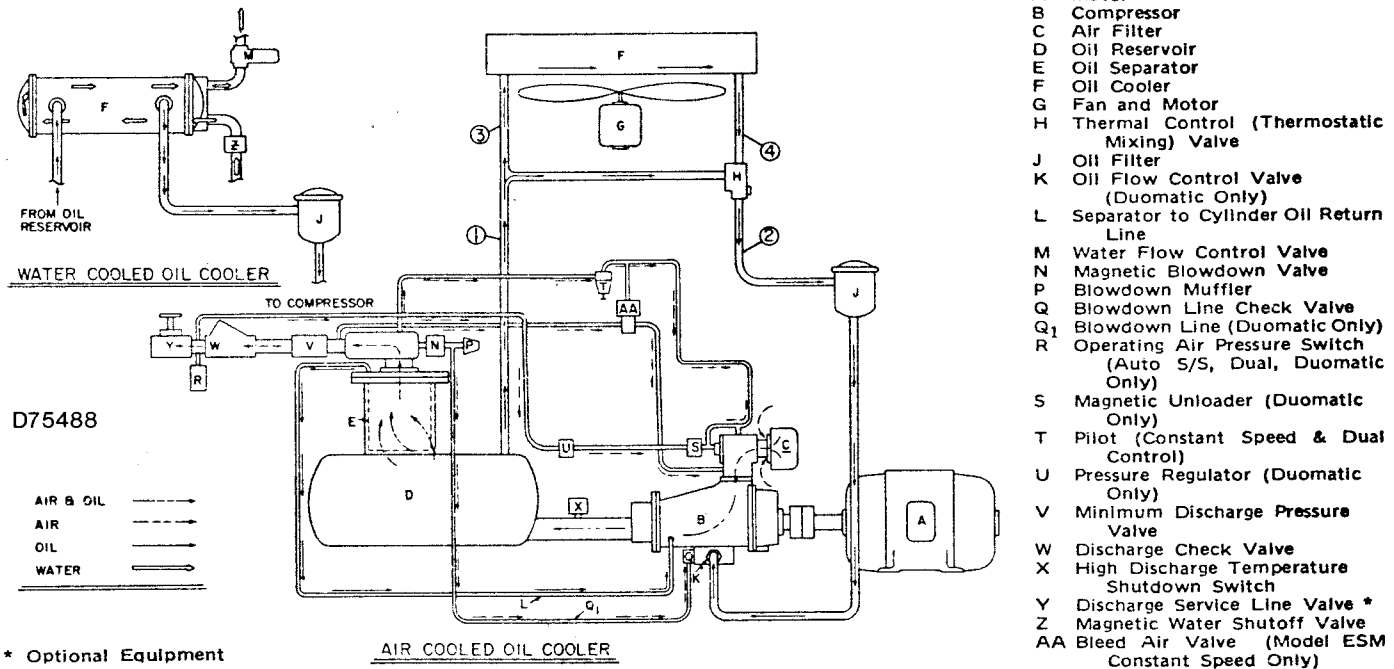
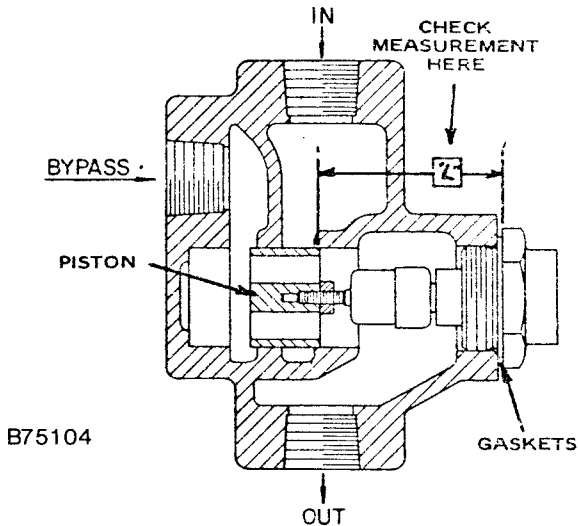
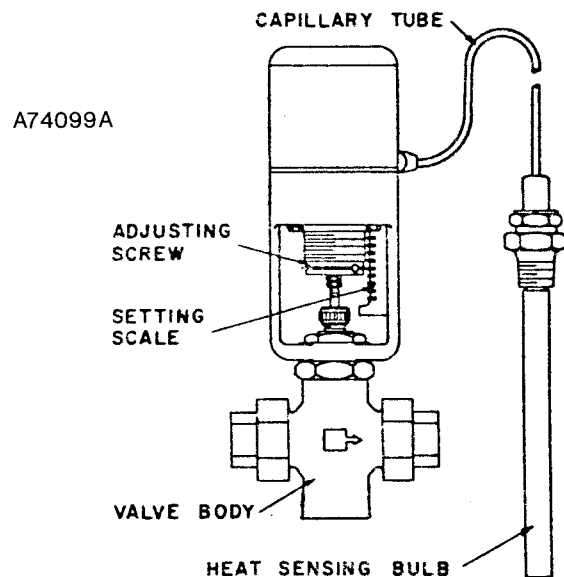

FIGURE 1-5. — FLOW DIAGRAM — AIR-OIL SYSTEMS
FIGURE 5-5A — THERMAL CONTROL (THERMOSTATIC MIXING) VALVE (ADJUSTABLE)
FIGURE 6-5. — WATER CONTROL VALVE
**COMPRESSOR OIL SYSTEM** (Figure 1-5) cools the compressor, lubricates moving parts and seals internal clearances in the compression chamber.
**THERMAL CONTROL (THERMOSTATIC MIXING) VALVE (Used With Radiator-Type Oil Cooler Only)** (Figure 5-5A) is installed in the system as shown in the flow diagram, Figure 1-5. On start-up, with the unit cold, the thermal element in the valve is open to the bypass line, allowing oil to circulate directly from the oil reservoir to the compressor during the warm-up period. As the oil warms up, the thermal element gradually opens to allow oil from the cooler to mix with oil from the bypass line. After the unit is warmed up, the control valve is to maintain oil injected into the compressor at a minimum of the valve set temperature. This system provides proper compressor warm-up and prevents moisture contamination of the oil. Operation of the compressor in high humidity conditions may require adjustment of the valve to raise the discharge temperature to prevent condensation in the oil reservoir. At 80° F. ambient temperature, the following minimum discharge temperature (measured at the compressor discharge elbow) must be held for the listed relative humidity (RH) and discharge pressure:
The setting of valve in Figure 5-5A may be adjusted to raise or lower the inlet oil temperature within a small range. Do not adjust the valve to maintain an oil inlet temperature below 130° F.
If unit shuts down due to high air discharge temperature, the thermal element may be stuck open to the bypass position blocking the cooler out of the system, in which case lines 1 and 2 (Figure 1-5) will be hot to the touch and lines 3 and 4 much cooler. To check the thermal element, heat in oil and check length of piston extension as shown in table above.
**COMPRESSOR OIL COOLER — WATER-COOLED HEAT EXCHANGER** (Figure 5-1) — The heat-exchanger cooler is a multiple-pass type, with water in the tubes and oil in the shell. The water flow is regulated by a self-operated flow control valve (Figure 6-5) installed in the water outlet line from the oil cooler as shown in the flow diagram (Figure 1-5) and designed to maintain the oil injected into the compressor at a minimum of 130° F. Even when the unit has a built-in aftercooler the water flow is still adjusted to provide the 130° F. oil temperature. See "Thermal Control (Thermostatic Mixing) Valve" for discharge temperature required in high humidity operation. See "Oil Specifications" (page 1, this section) for maximum allowable oil inlet temperature. The valve's temperature sensing bulb is located in the oil outlet line of the oil cooler. An oil temperature change at the bulb operates the valve, increasing or decreasing the water flow, to maintain the oil temperature within the set range. The instrument panel thermometer indicates the oil temperature to the compressor.
(Figure 6-5) — The water flow control valve is adjustable to compensate for varying inlet water temperatures. Use the oil temperature thermometer on the instrument panel in setting the flow control valve. **To decrease water flow** (increase oil inlet temperature) turn the adjusting screw from left to right, increasing spring tension. **To increase water flow** (decrease oil inlet temperature) turn the adjusting screw in the opposite direction. The groove at
(Figure 1-5) — A magnetic solenoid-operated water shutoff valve rated at 150 PSIG water pressure is supplied in the water inlet line ahead of the oil cooler. The valve is wired into the compressor control circuit and opens to allow water to flow any time the ON-OFF push button is ON and the compressor is running. When the compressor stops under automatic control, or is shut off manually, the valve closes, stopping water flow through the system.